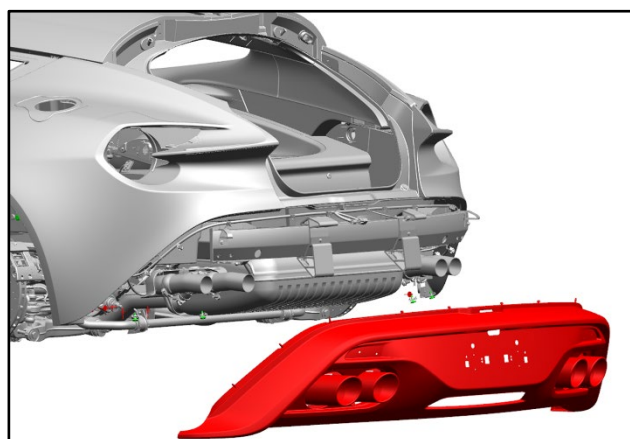

Figure 13
23. With the aid of one more person, carefully remove the diffuser and put it on the prepared surface (refer to Figure 13).